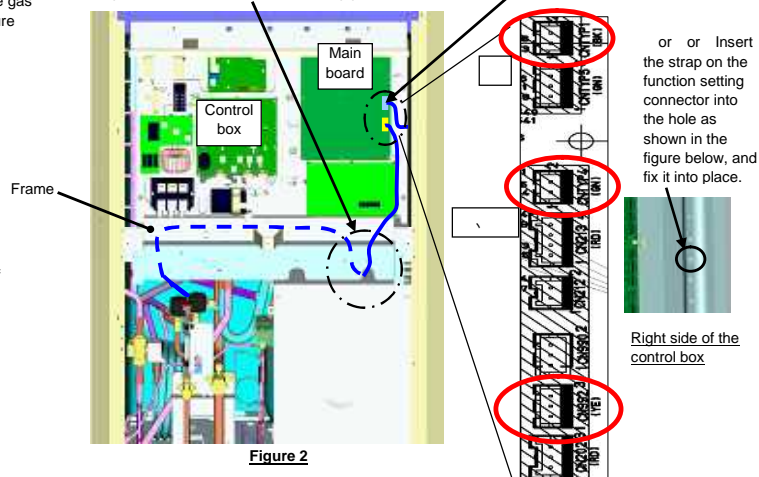

Figure 2
(3) Refer to Figure 2 for how to route the pressure sensor cable. Connect the pressure sensor connector to CN992 on the circuit board in the control box.
Remove the function setting connector that is connected to CNTYP4 on the Main board in the control box. (Figure 2)